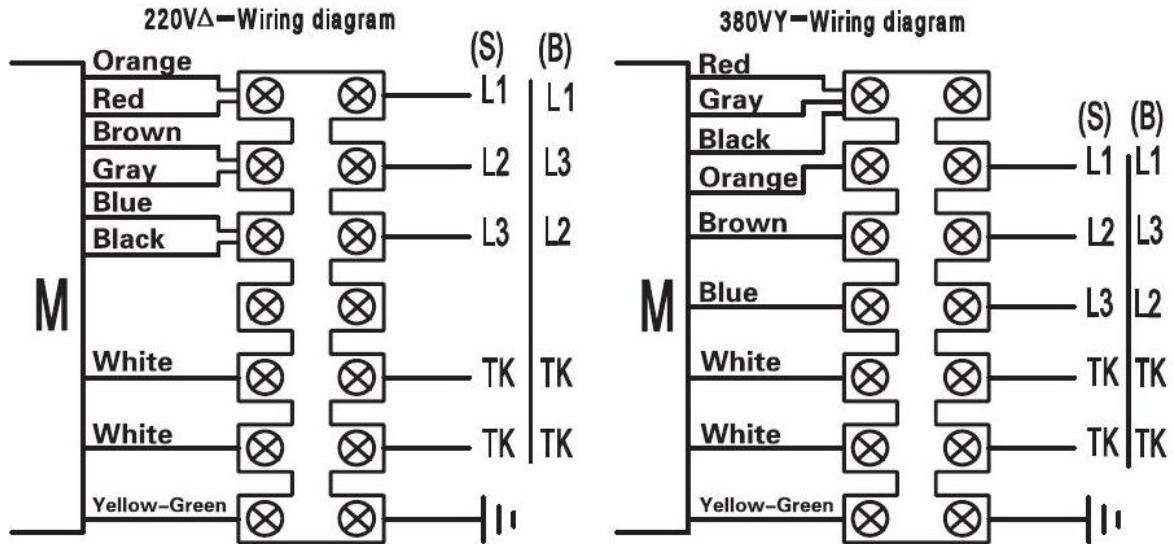

Fig. 7
* Depends on the connection (Fig. 7) you can connect the motor at 220V or 380V.